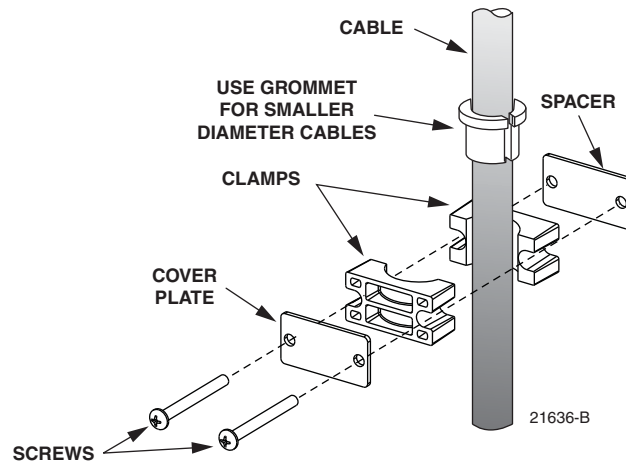

Figure 18. Cable Clamp Assembly
7. Assemble each pair of clamps (and grommet if required) on the cable as shown in Figure 18 and secure the cable to the cabinet at the feeder cable clamping position.